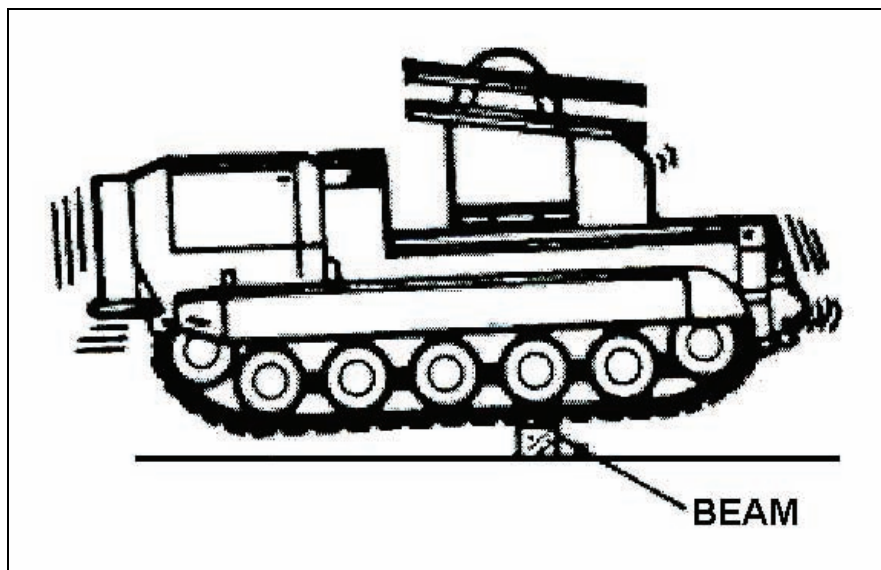

Figure 3-102. Determining the Center of Balance of a Tracked Vehicle
8. Direct personnel to determine the center of balance of a tracked vehicle using prescribed procedures (see Figure 3-102).